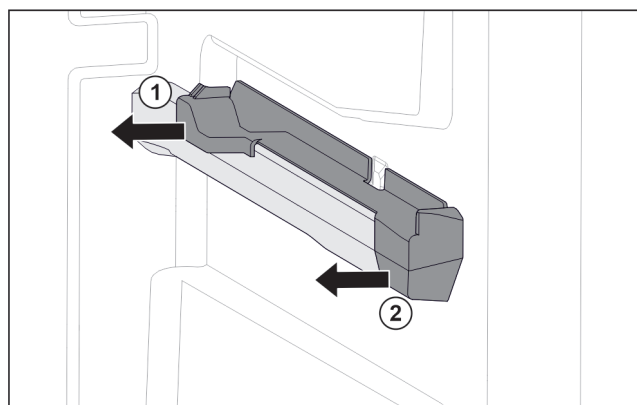

Fig. 31 Attachment on the right moulded rib
- ▶ Pull off attachment at the back sideways. Fig. 31 (1)
- ▶ Pull off attachment at the front sideways. Fig. 31 (2)